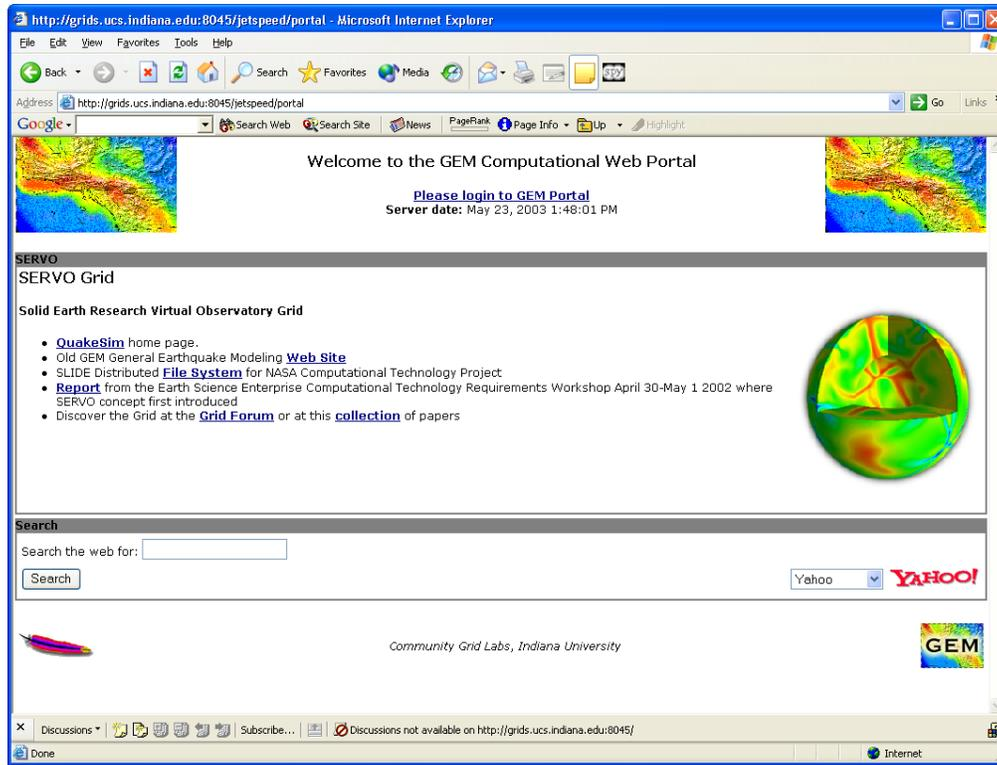

Figure 2 GEM Portal Login
1. Go to <http://complexity.ucs.indiana.edu:8282/jetspeed>. You should see the screen below, Figure 2.